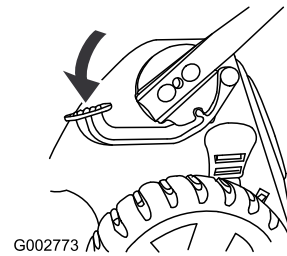

Figure 49
1. Step on the foot pedal and hold it down (Figure 49).